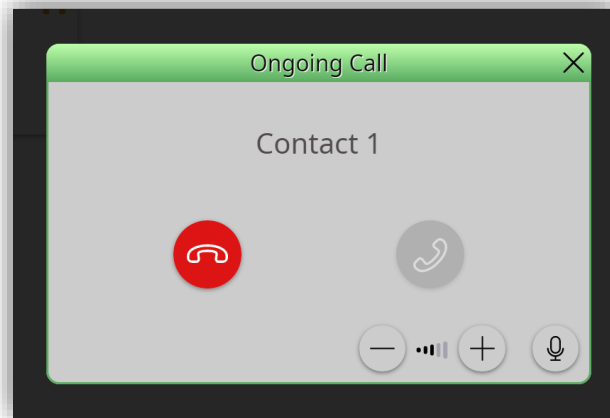

Figure 148. Ongoing call
- **Accept call:** opens ongoing call dialogue (Figure 148) initiating the audio communication.
When accepting an incoming internal call, the interface in Figure 148 will be displayed.